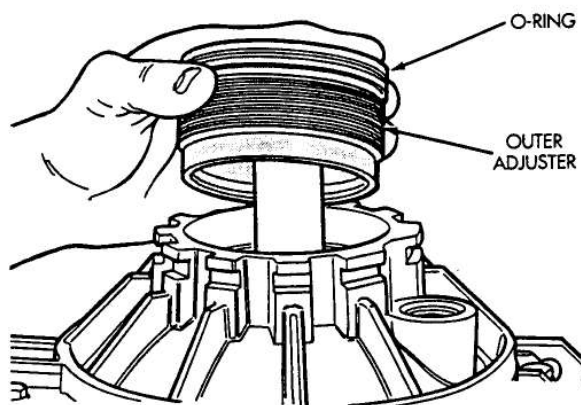

Fig. 43 Outer Adjuster Installation
(48) Install outer adjuster with new o-ring (Fig. 43). Torque the outer adjuster (special tool 6503) to the torque reading recorded in step 25. Then seat bearings by turning differential three or four revolutions in both directions. Tighten adjuster a second time to same torque recorded in step 25. Again re-seat bearings. Repeat this sequence until correct adjuster torque is maintained.